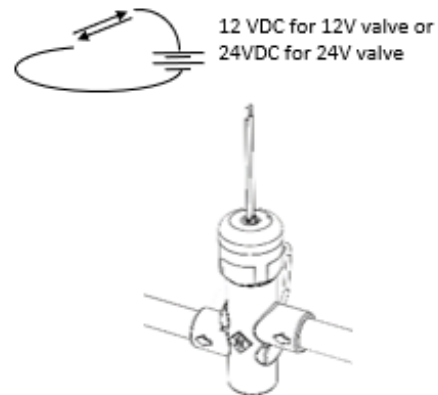

Figure 4-5: Power cycling
- Power cycle the MSEV at rate of 1 to 2 secs ON and 1 to 2 secs OFF for 10 times directly with the DC voltage (bypass USHC) with corresponding to valve type as shown in **Figure 4-5**, preferably while the compressor is running.
- Power cycle the MSEV at rate of 1 to 2 secs ON and 1 to 2 secs OFF for 10 times directly with the DC voltage (bypass USHC) per power required as shown in Figure 4-5, preferably while the compressor is running.